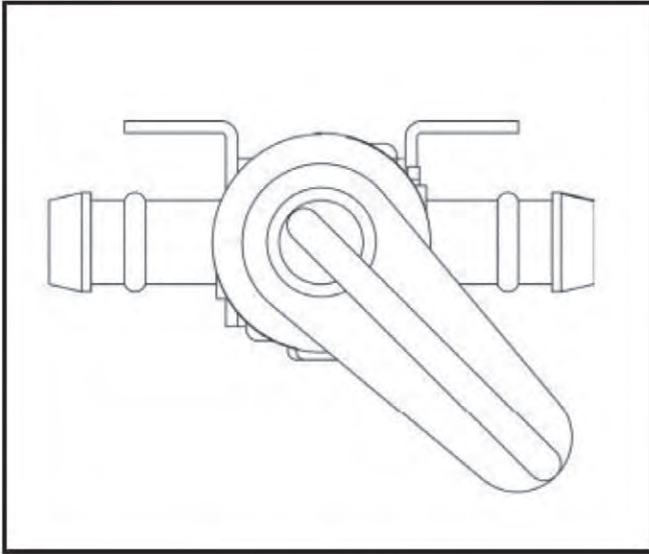

FIGURE 1
1. Move the water valve to the closed position to stop the flow of liquid pesticide. Figure 1.
1. **Water Flow**- To adjust water flow use the water valve to increase the flow of water from the tank. See Figure 1.